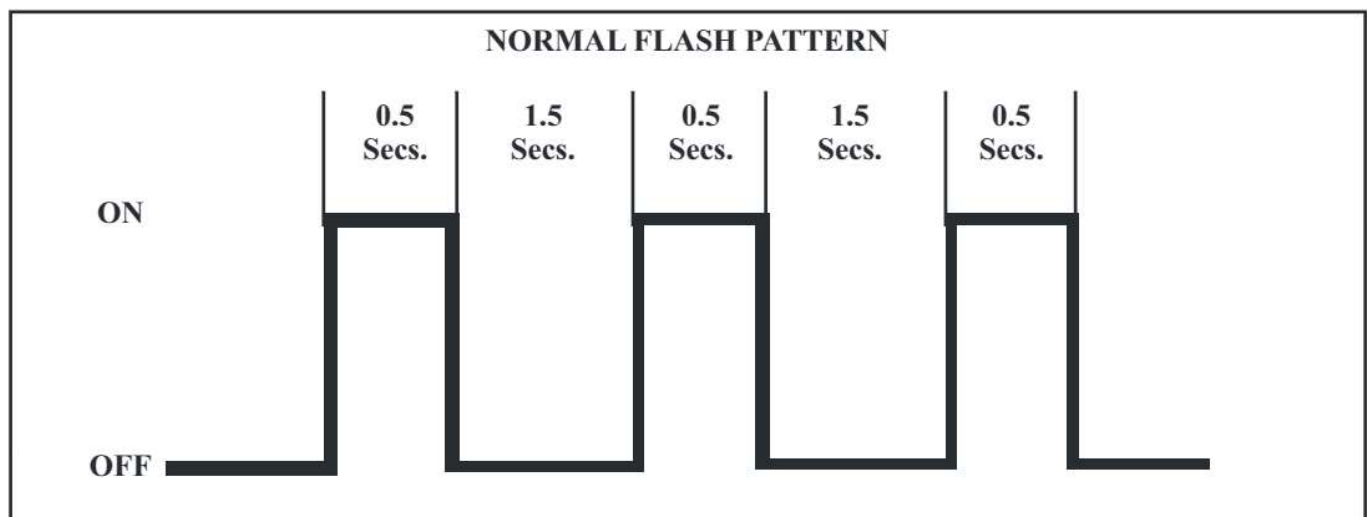

Figure 78
- 8 - Check to see that a normal flash pattern is being displayed indicating all codes have been cleared as seen in Figure 78.